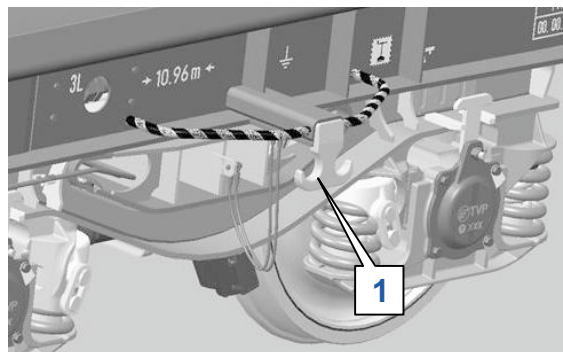

Fig. 2
For this purpose, the wagon is on both sides equipped with hooks for towing rope (1) in accordance with applicable TSI WAG and UIC regulations (Fig. 2).